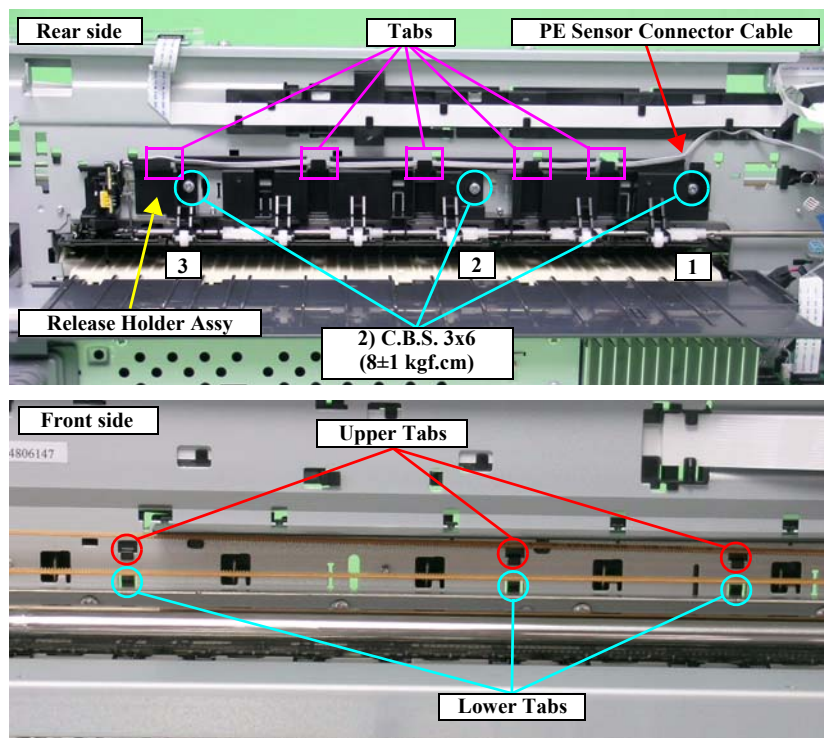

Figure 4-106. Removing the Release Holder Assy
- Align the three Upper tabs on the Release Holder Assy with the positioning holes on the Main Frame. See Figure 4-106.
- Tighten the screws in the order shown in Figure 4-106.